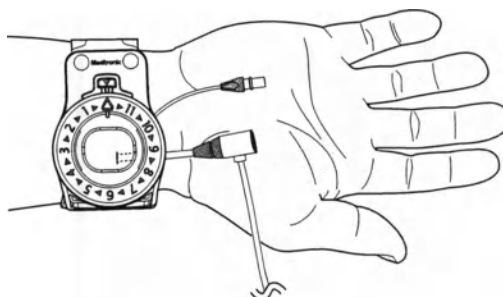

Figure 2. Positioning the Closure Band.
3. Position the closure band over the wrist such that the access site is visible through the clear window and the center of the dial is aligned with the arteriotomy (Figure 2).